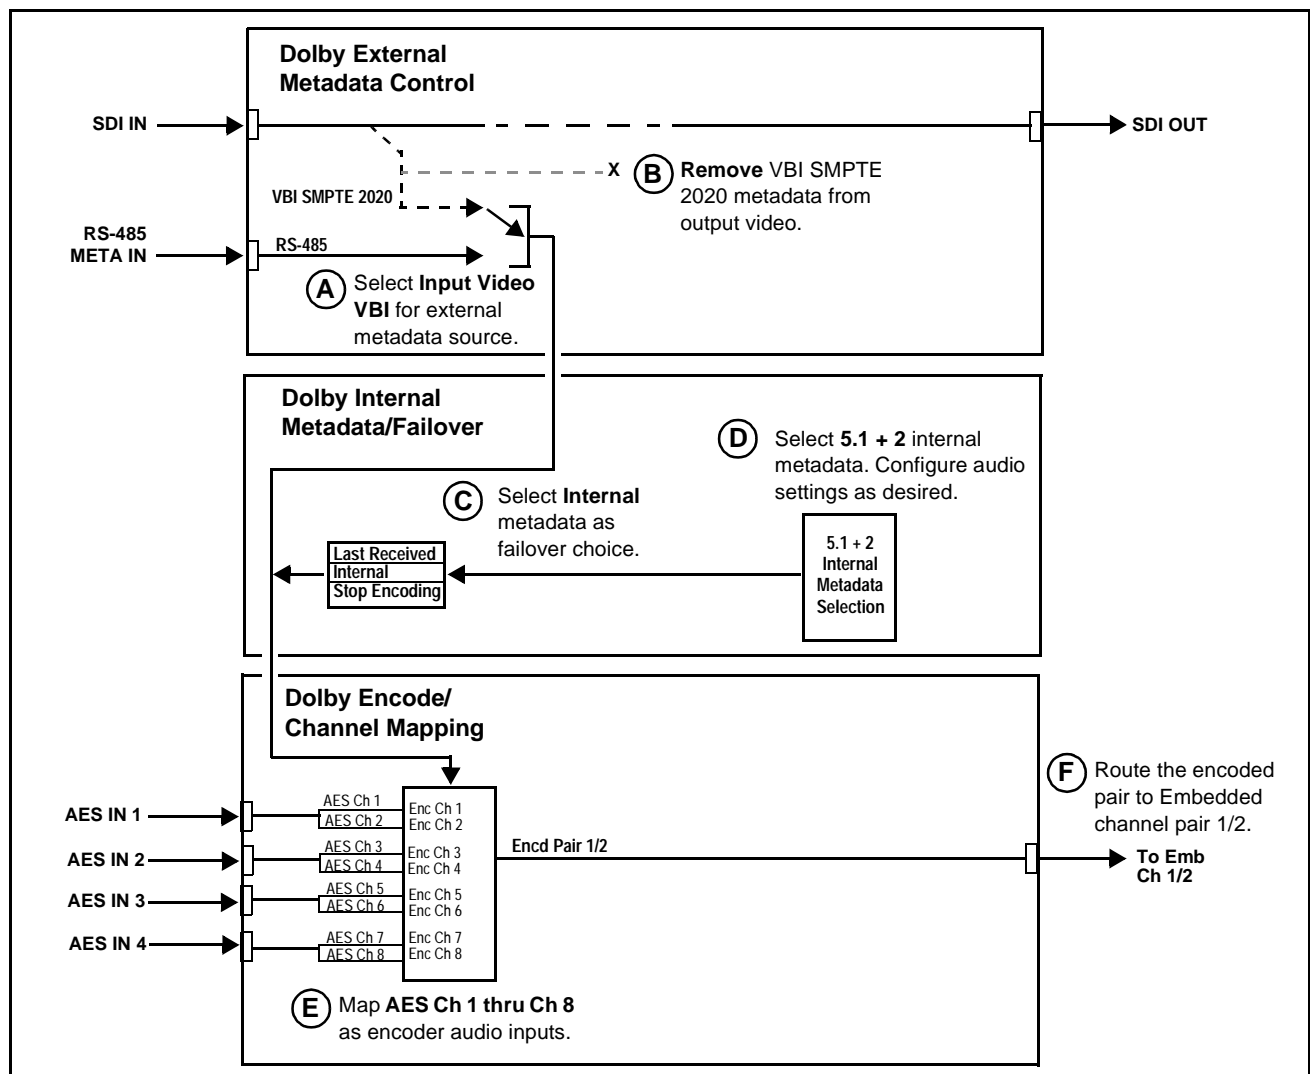

Figure 3-11 Dolby® E Setup Example (Sheet 1 of 2)
Figure 3-11 shows an example setup of using the 9083 Dolby® controls and audio routing controls to perform the following:
Figure 3-11 (sheet 1) shows this setup consisting of steps (A) through (F). Figure 3-11 (sheet 2) correspondingly shows the DashBoard™ function tabs and control settings that are used for this setup.